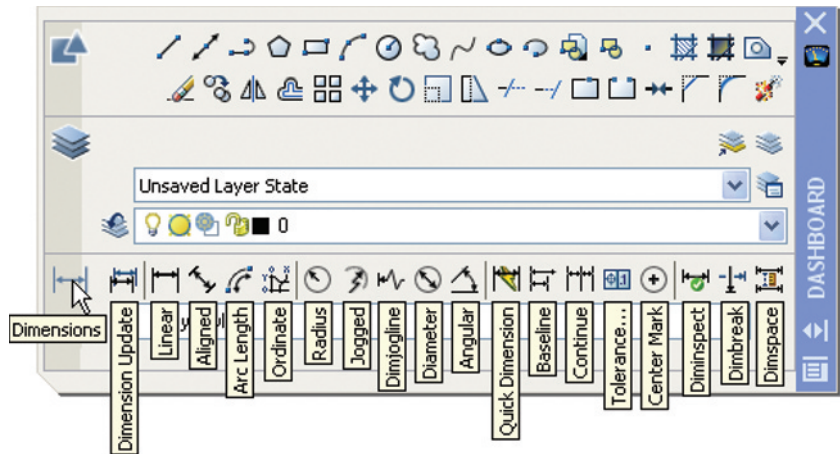

Fig. 6.1 Dimension tools in the **Dimensions** control panel
1. From the **Dimensions** control panel in the **DASHBOARD** (Fig. 6.1).
From Fig. 6.1 it will be seen that there are some dimension tools which have not been described in examples. Some operators may prefer *entering* dimensions from the command line. This involves abbreviations for the required dimension such as: